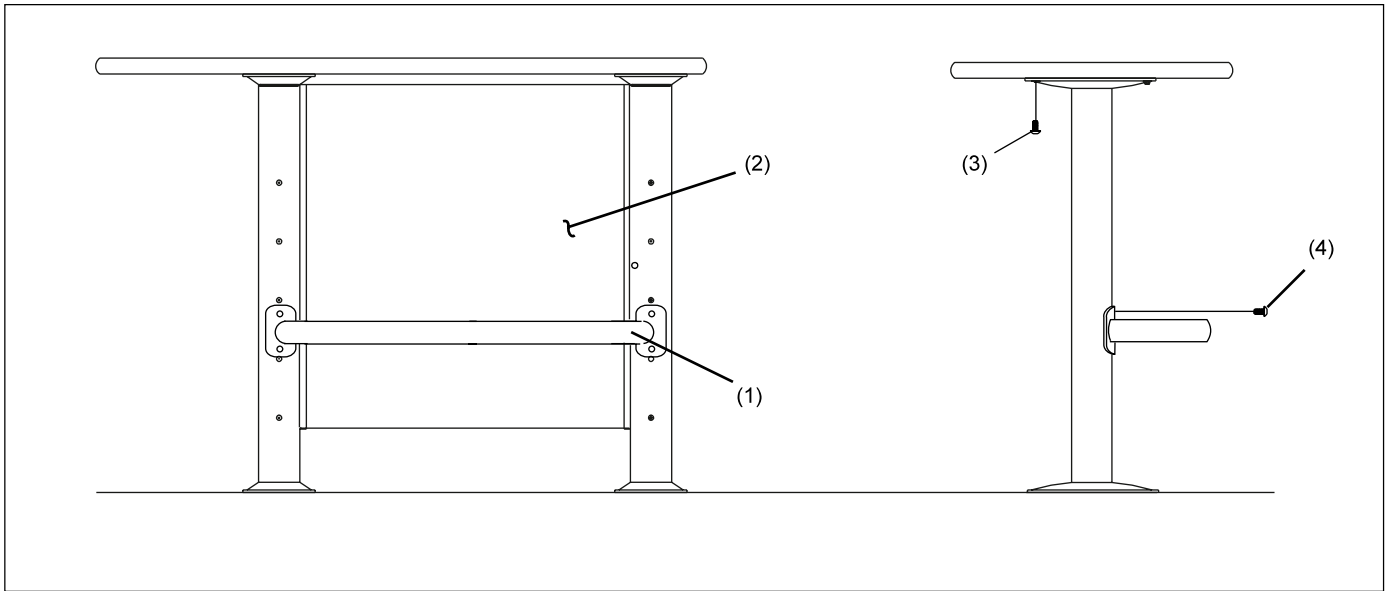

Figure 12. Secure Table Top to Leg Assembly
2. Secure the appropriate table top to the table leg assembly with four 3/8-16 x 3/4" button head cap screws. Refer to *Figure 12*.
3. Secure each shelf to the leg assemblies with two standard 3/8-16 x 1" button head cap screws. Refer to *Figure 12*. The shelf locations, depending on their use, are listed below: